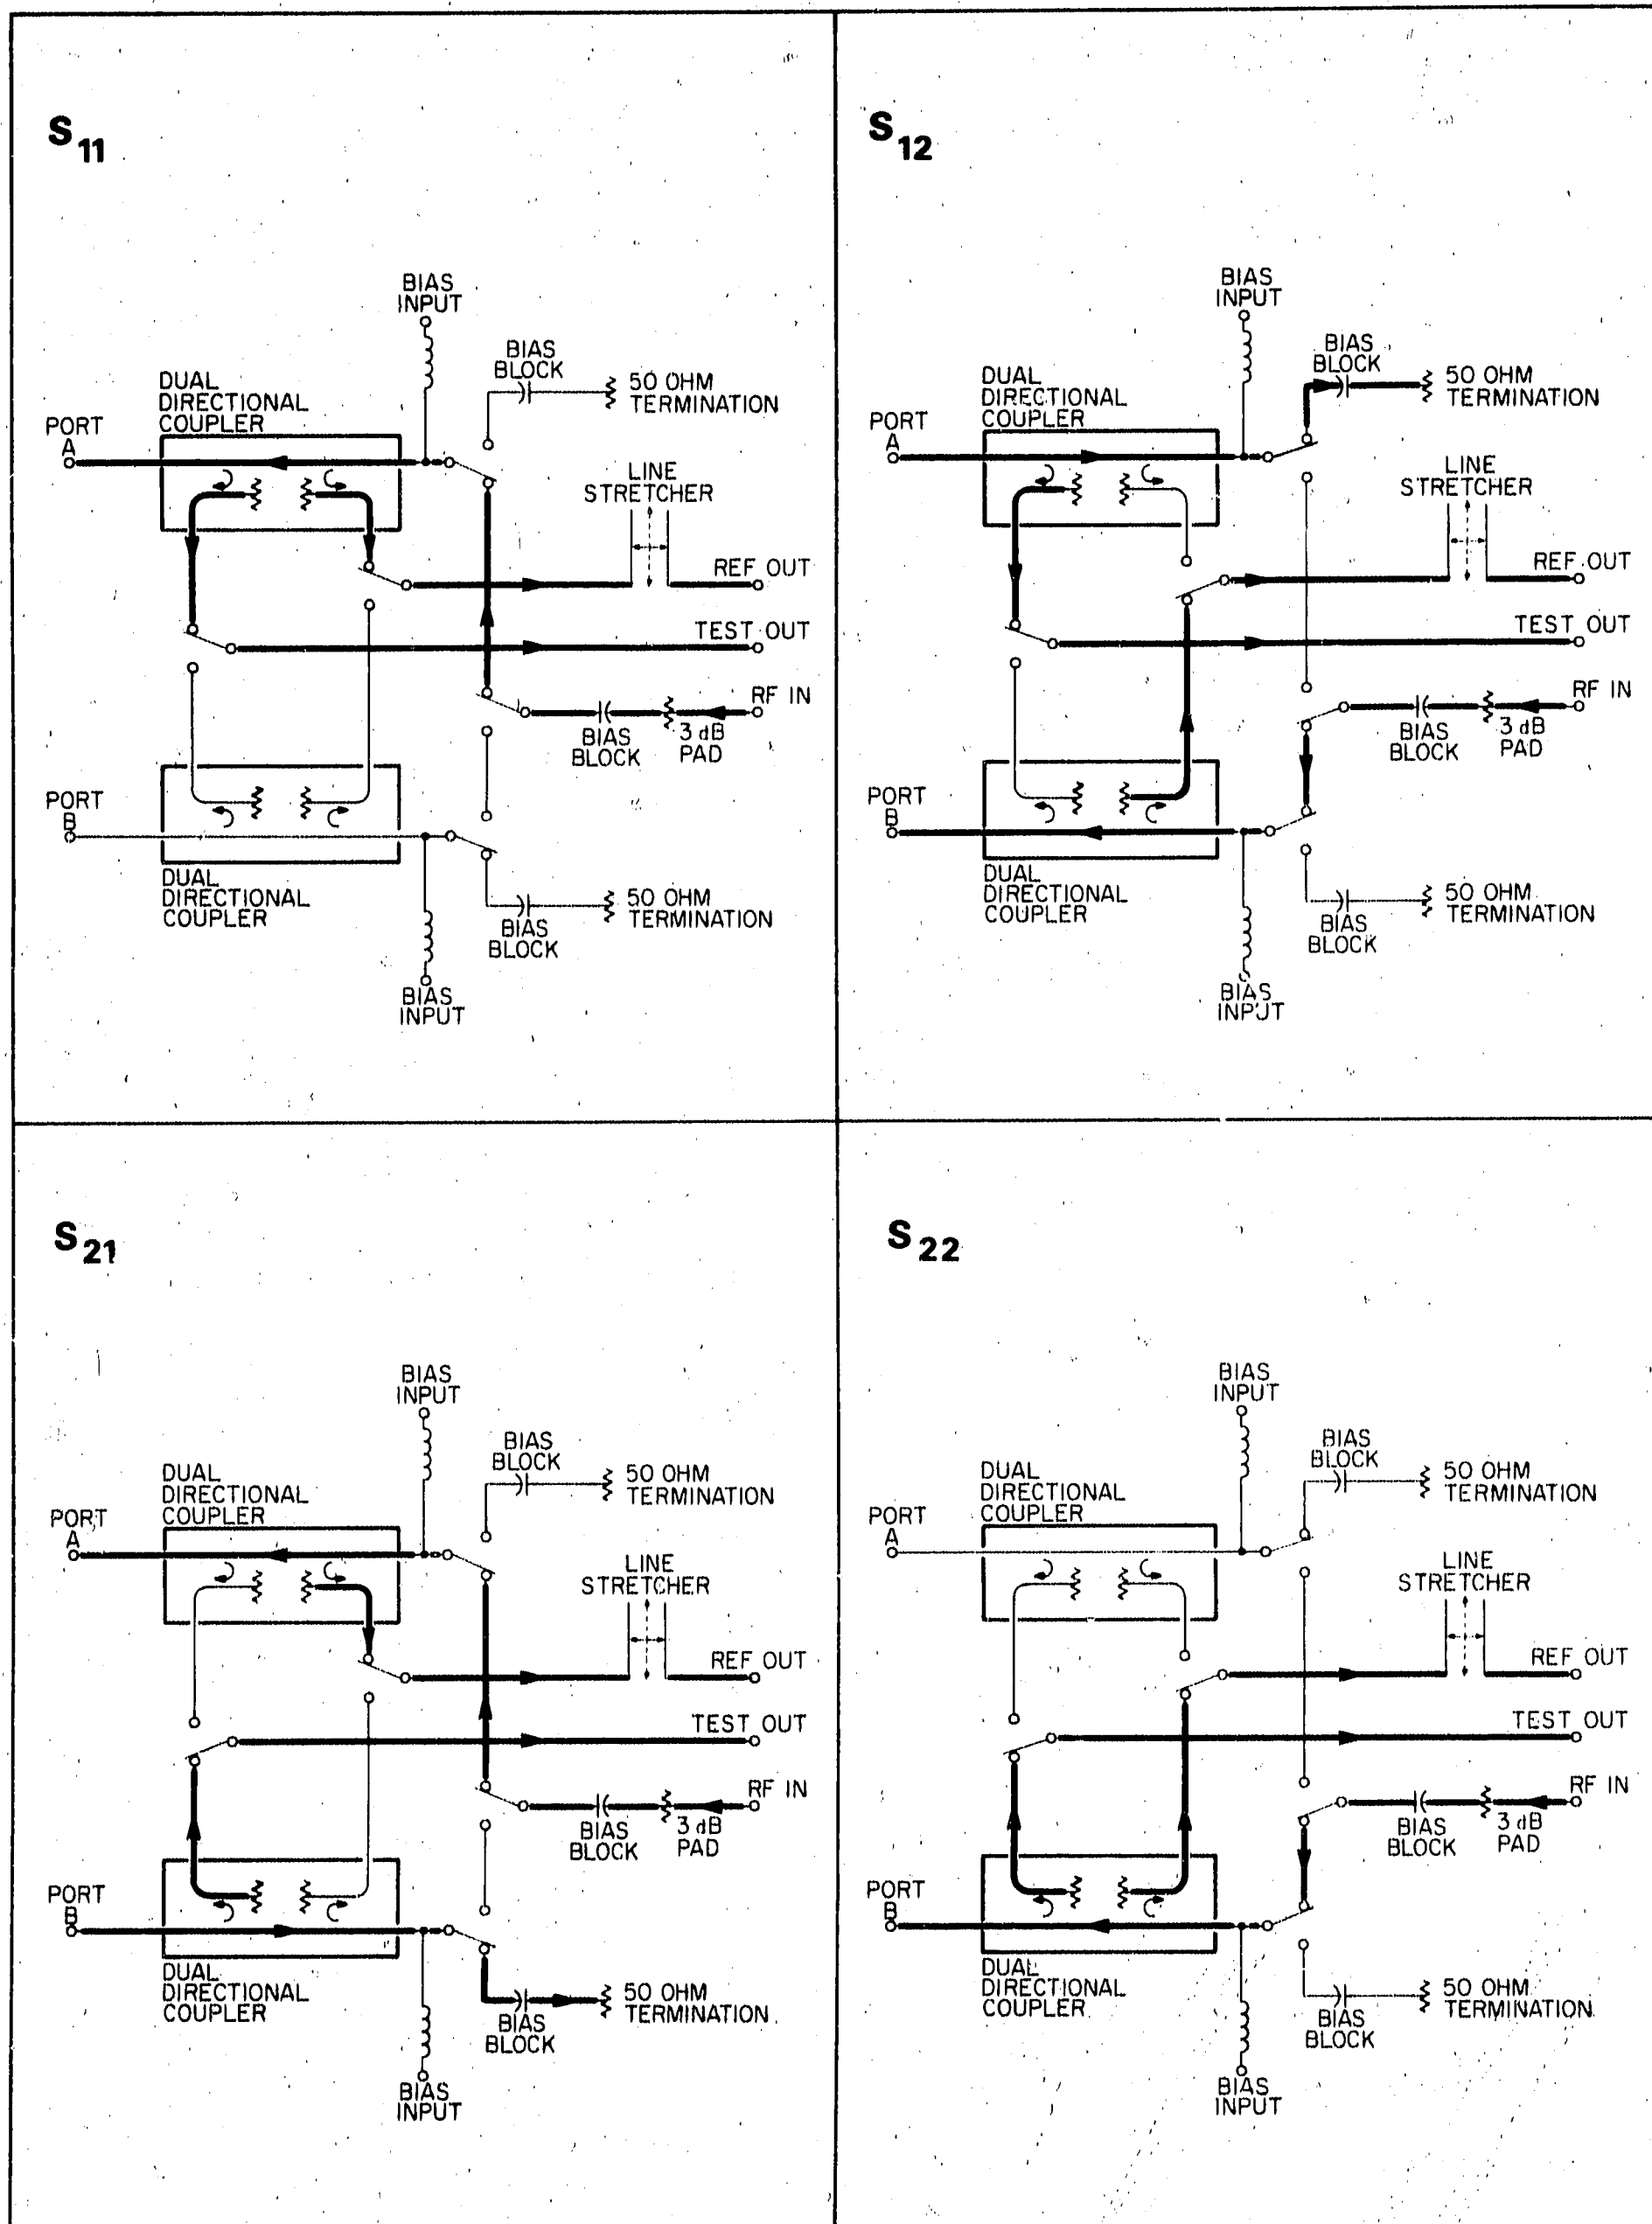

Figure 3-3. Signal Flow Diagrams, Input Port A Selected
d. Measure the parameters of the device under test. This is accomplished by selecting input port A, or B then selecting the s parameter of interest. Figures 3-3 and 3-4 show the internal connections within the S-Parameter Test Set for the different switch combinations.